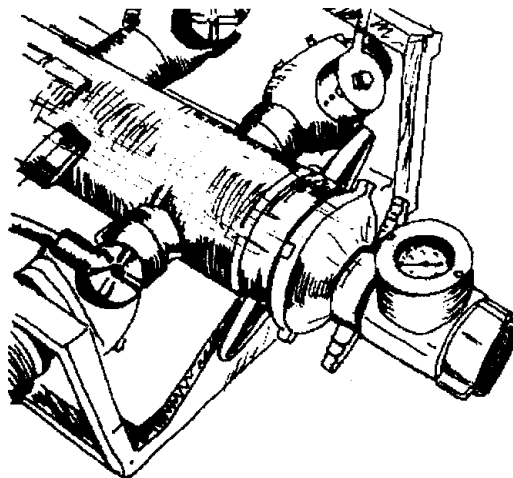

Fig. 7-21
5. Attach 4 1/2 inch to 2 1/2 inch reducer to 6 way manifold (see Fig. 7-21).
6. Attach the in-line hose test gauge to reducer (see Fig. 7-21).
4. The hose test gauge, not the manifold gauge, shall be used to monitor hose pressure (see Fig. 7-21).